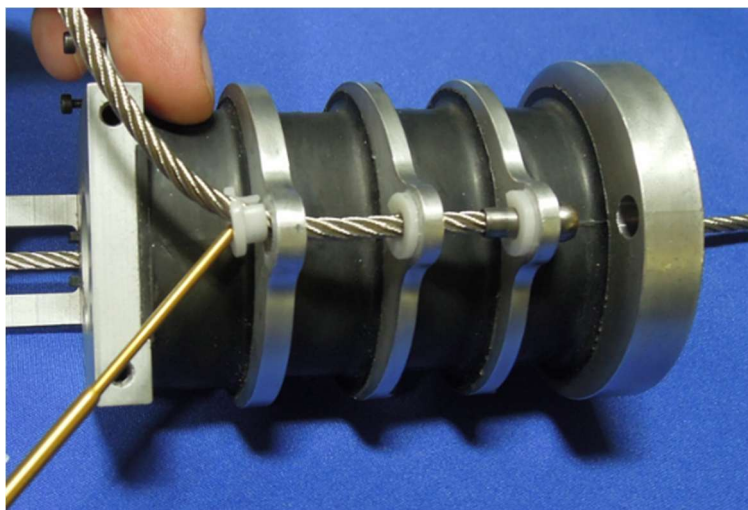

Figure 4-30. A flat head screwdriver can aid in seating the plastic guides from the cables
- 4.3.1 To assemble the neck cables, pass the ball end of the Neck Cable Assembly (474-2620) from the top down through each of the neck plate holes on the front and rear of the neck (Figure 4-29). Slits on one side of the cable guide halves (474-2332) allow them to be stretched open and pressed onto the cable at each location (total of 7). Once each guide is on the cable, press it into the hole in each plate (Figure 4-30).